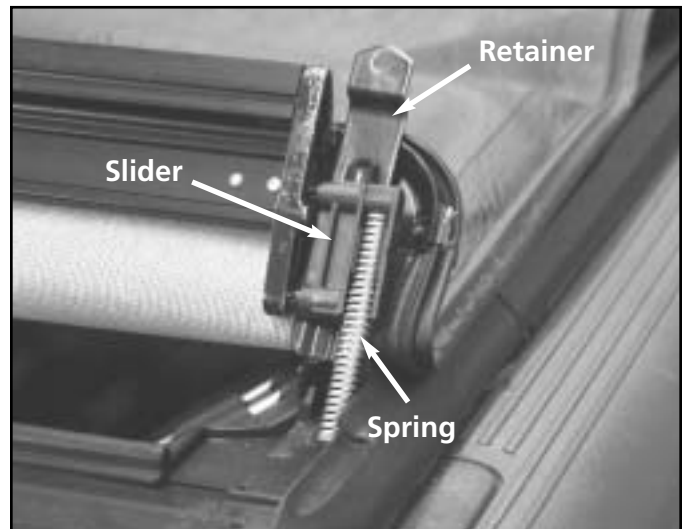

Figure S-34
8. Remove the slider retainers and pull the tonno cover fabric back and up in order to expose the motor cover. See figure S-34.
11. Fold the cover over the rail and install the sliders, slider springs and slider retainers into the front rail. See figure S-34.